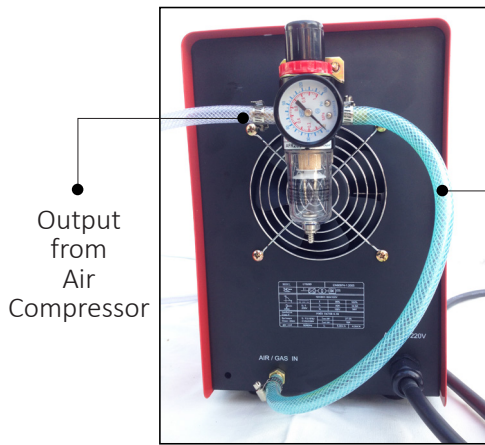
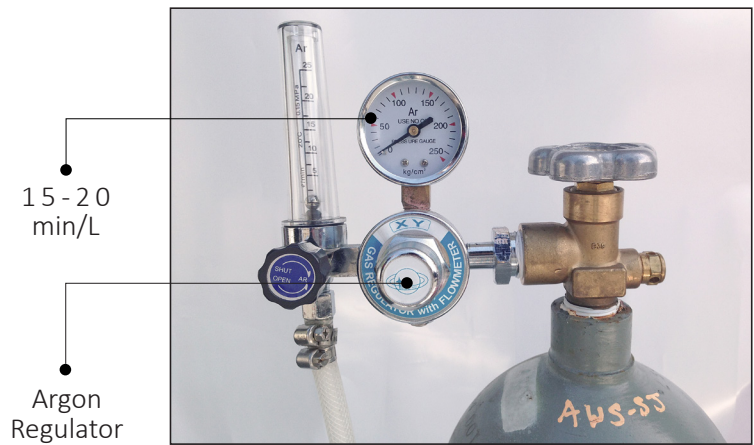

Figure 1.5
Figure 1.6
2. Connect the machine gas inlet (on the back of the machine, Figure 1.5) to the argon regulator and adjust the knob to set gas pressure between 15 and 20 min/L (an argon regulator is necessary, Figure 1.6.)